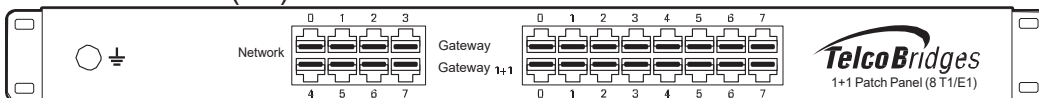

Figure 1.1 Equipment Front and Rear Views
The 800 series standalone consists of one telecom unit. The front and rear views are shown in figure 1.1 on page 2.
The 800 series 1+1 system, see figure 1.1 on page 2, consists of:
TMG800, TSG800, or TMGIP800. See figure 1.1 on page 2.
- One 800+1 series unit. See figure 1.1 on page 2.